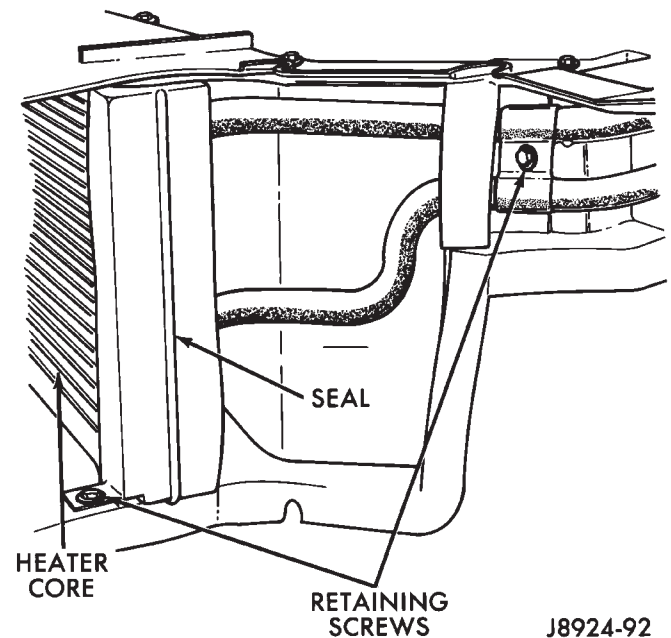

Fig. 12 Heater Core
- (1) Drain the radiator.
- (2) Disconnect the heater hoses at the heater core inlet and outlet tubes.
- (3) Remove the evaporator/blower housing.
- (4) Remove the retaining screws and remove the heater core by pulling it straight out of the housing (Fig. 12).